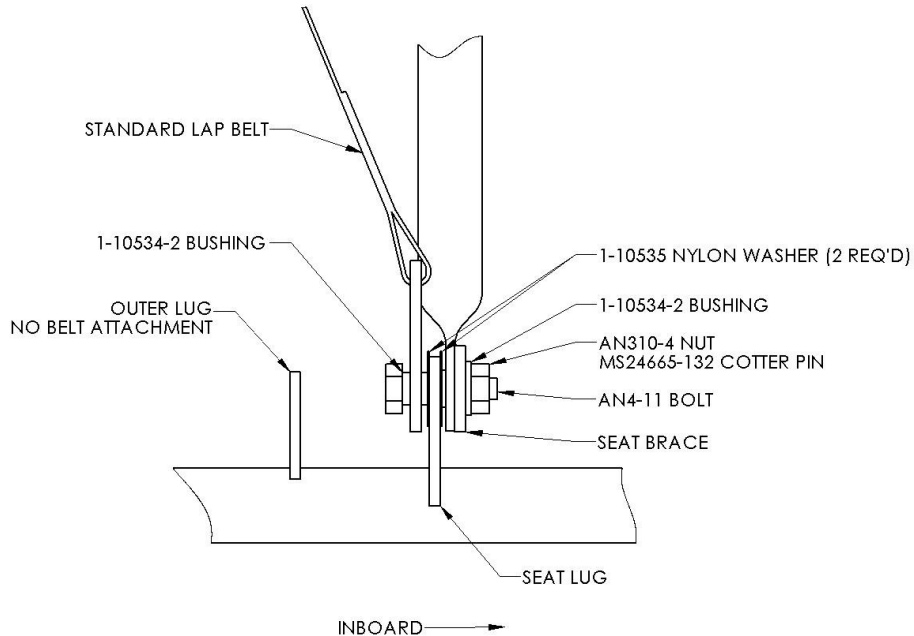

Figure 2, Standard Harness Installation
2. Inspect front lap belt to Figures 2, 3, or 4; correct installation as necessary.